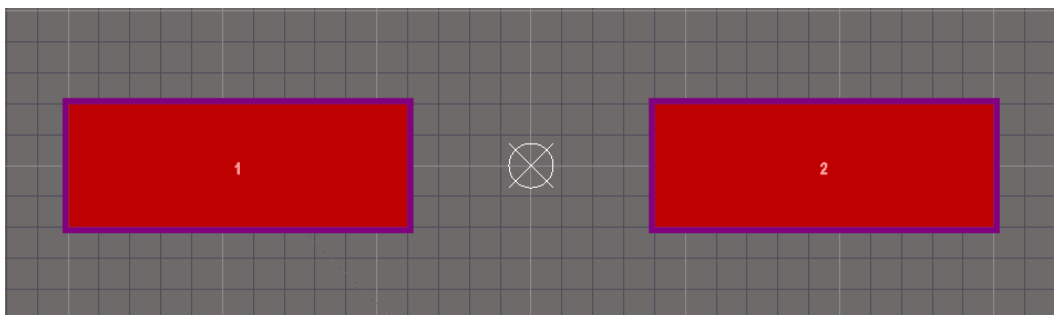

Figure 31. Component Origin set to Center
45. Assign the origin to the center of the existing pads by going to **Edit » Set Reference » Center**. The component origin, shown by the circle and crosshairs, will be placed at the geometric centre of the pads, as shown in Figure 31.